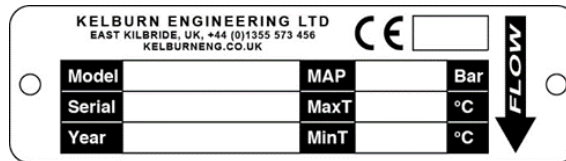
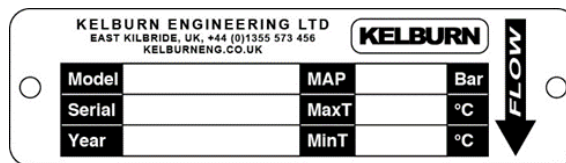

Figure 1
Figure 3
- 3.5 Please refer to the nameplate (Figure 1, Figure 2 or Figure 3) attached to the Cyclone Separator which states the maximum allowable pressure (MAP), maximum temperature (MaxT) and minimum temperature (MinT). The end user must ensure that suitable devices are fitted to prevent these pressure and temperatures from being exceeded.